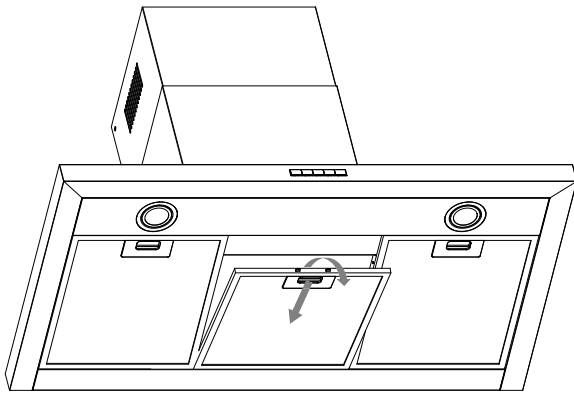

Fig.8
- Remove the filters see Fig. 8.